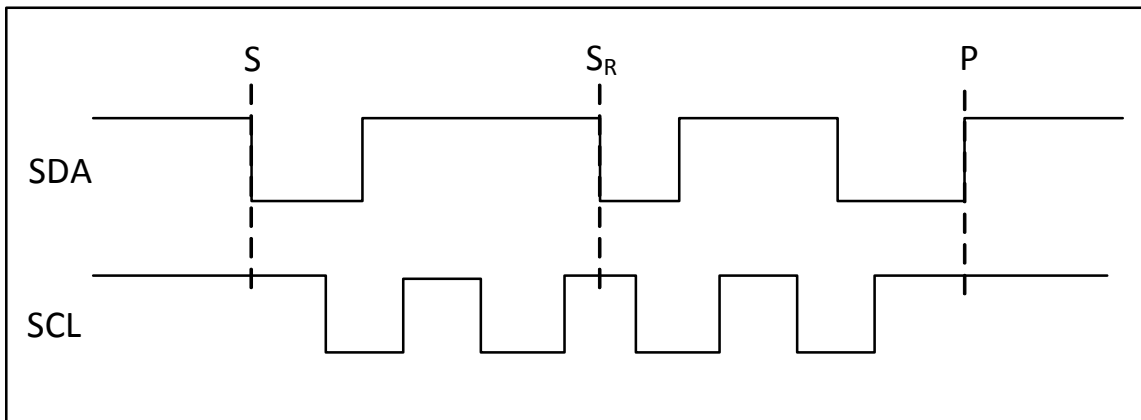
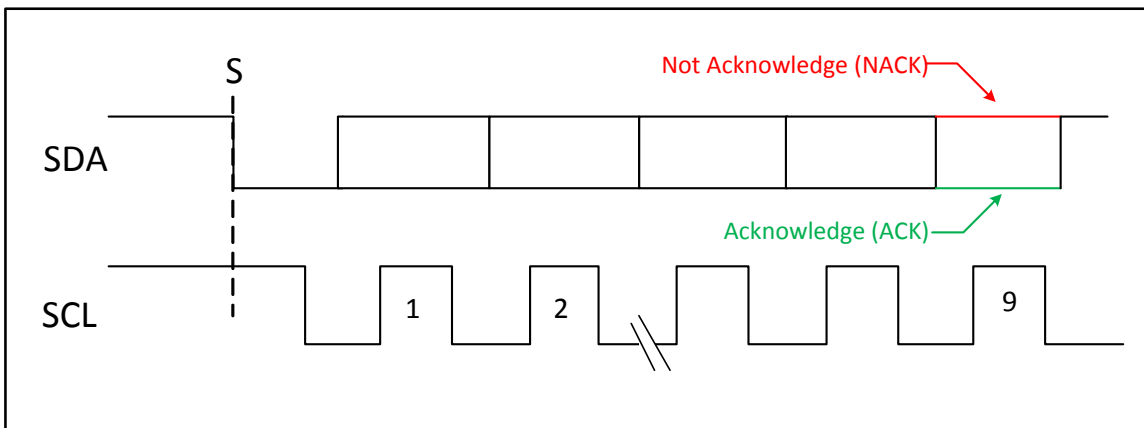

Figure 9. Start and Stop Conditions
Figure 10. Acknowledge Cycle
The I2C/SMBus serial port is a two-wire serial bus where data line SDA is bidirectional and clock line SCL is unidirectional. Reads and writes to this interface by the master are byte-oriented, with the I2C/SMBus master controlling the serial data rates up to 240 kbps. The SDA and SCL lines must be pulled high through pull-up resistors of 5 kΩ or less. An Si8901 ADC read transaction begins with a START condition (“S” or Repeated START condition “SR”), which is defined as a high-to-low transition on SDA while SCL is high (Figure 9). The master terminates a transmission with a STOP condition (P), defined as a low-to-high transition on SDA while SCL is high. The data on SDA must remain stable during the high period of the SCL clock pulse because such changes in either line will be interpreted as a control command (e.g., S, P SR). SDA and SCL idle in the high state when the bus is not busy. Acknowledge bits (Figure 10) provide detection of successful data transfers, whereas unsuccessful transfers conclude with a not-acknowledge bit (NACK). Both the master and the Si8901 generate ACK and NACK bits. An ACK bit is generated when the receiving device pulls SDA low before the rising edge of the acknowledged related (ninth) SCL pulse and maintains it low during the high period of the clock pulse. A NACK bit is generated when the receiver allows SDA to be pulled high before the rising edge of the acknowledged related SCL pulse and maintains it high during the high period of the clock pulse. An unsuccessful data transfer occurs if a receiving device is busy or if a system fault has occurred. In the event of an unsuccessful data transfer, the bus master attempts communication at a later time. Figure 11A shows the I2C Slave Address Byte and CNFG\_0 byte for the Si8901. Figure 11B and Figure 11C show master/Si8901 ADC read transactions for Demand Mode and Burst Mode, respectively.